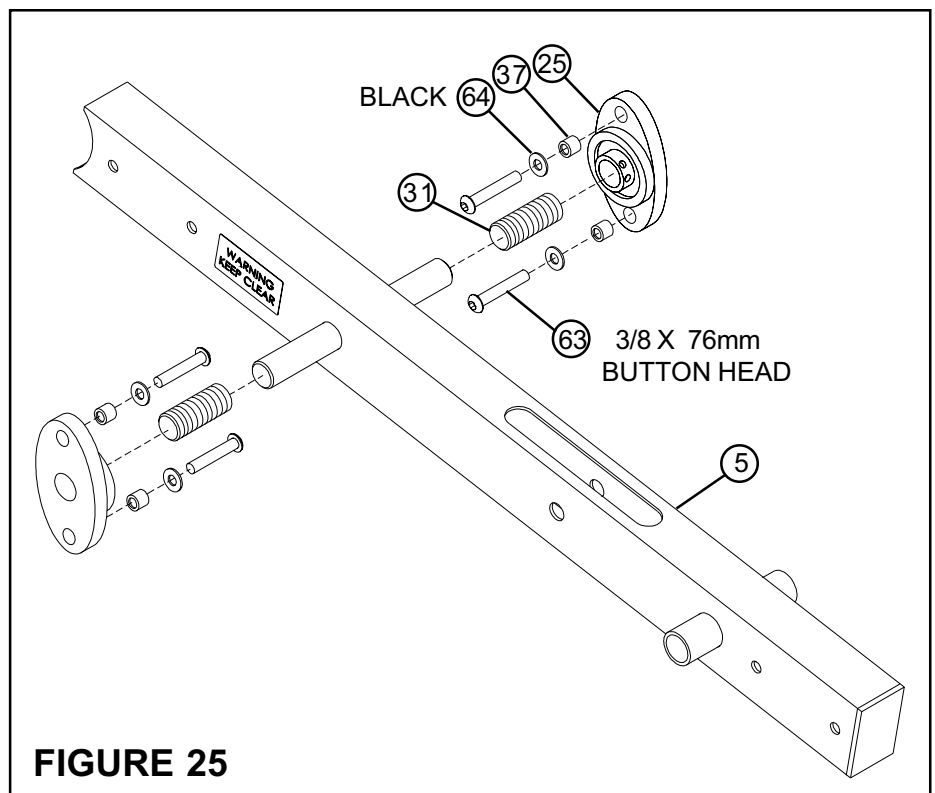

FIGURE 25
- Slide two 3" ACCORIDIAN SLEEVES (31) over the shafts on the PIVOT ARM (5) as shown in FIGURE 25.
- Slide two PILLOW BLOCKS (25) over the shafts on the PIVOT ARM (5) as shown in FIGURE 25.
- Assemble four 3/8 X 76mm BUTTON HEAD BOLTS (63), four 3/8" BLACK SAE WASHERS (64) and four PILLOW BLOCK SPACERS (37) to the the PILLOW BLOCKS (25) as shown in FIGURE 25.